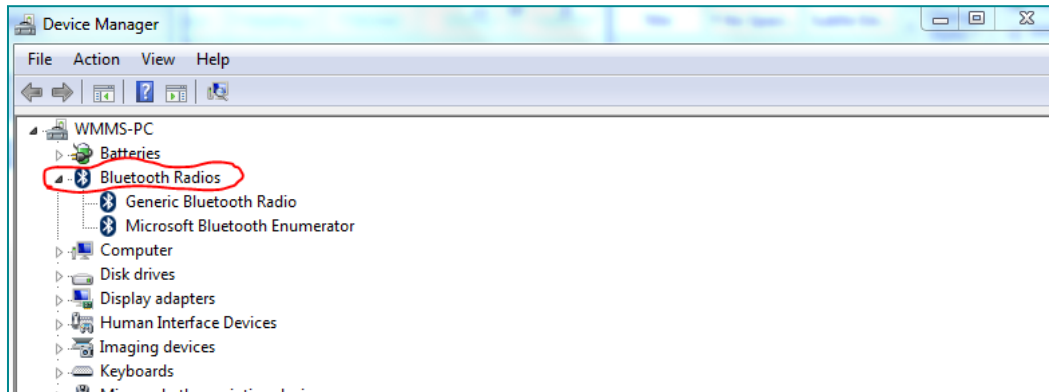

Figure 4-9. Locating the “Bluetooth Radios” connected to your computer in the Windows “Device Manager”.
2. Go to the Windows “**Device Manager**” to see the list of “**Bluetooth Radios**” that are connected to your computer (see Figure 4-9).